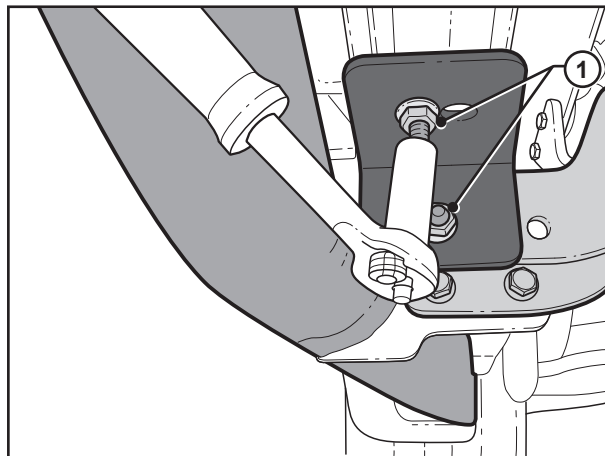

FIGURE 22
⚠ Using a 13mm socket, torque the M8 nuts (1) to 22Nm as shown in Figure 22.